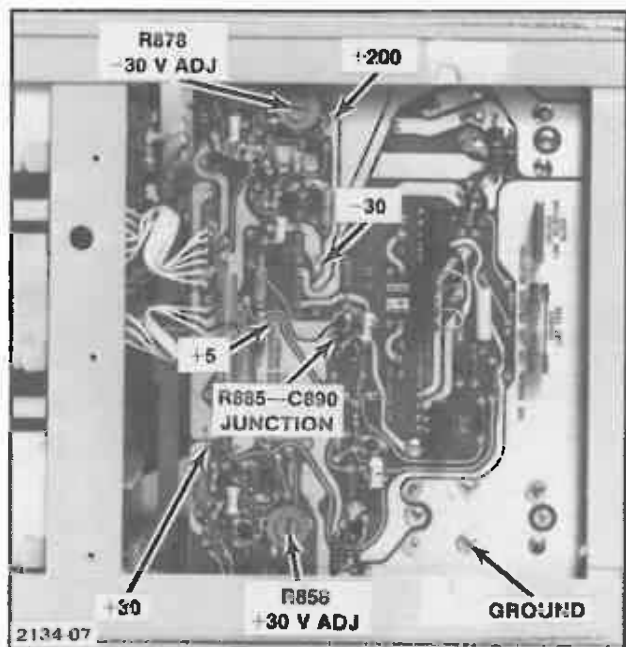

Fig. 3-1. Locations of power-supply test points and adjustments.
b. Connect the digital voltmeter between the -30 V test point and ground. See Fig. 3-1 for voltage test point location.
d. Adjust—-30 V Adj R878 for a meter reading of exactly -30 volts. See Fig. 3-1 for adjustment location.
a. Connect the digital voltmeter between the +30 V test point and ground. See Fig. 3-1 for voltage test point location.
c. Adjust—+30 V Adj R858 for a meter reading of exactly +30 volts. See Fig. 3-1 for adjustment location.
a. Connect the digital voltmeter between the +5 V test point and ground. See Fig. 3-1 for voltage test point location.
c. Connect the digital voltmeter between the +200 V test point and ground. See Fig. 3-1 for voltage test point location.
a. Connect the digital voltmeter between the CALIBRATOR current loop on the front panel, and a ground test point. See Fig. 3-1 for ground test point location.
b. Apply a ground connection (short circuit) between the junction of R885 and C890, and a ground test point. See Fig. 3-1 for the junction and ground test point locations.